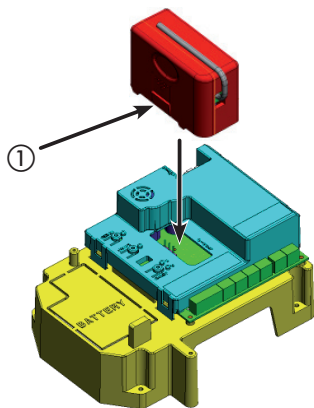

Fig. 10
The control board has an integrated 2-channel decoding system (DS, SLH, LC) named OMNIDEC. This system makes it possible to memory-store both total opening (OPEN A) and partial opening (OPEN B) of the automated system - this is made possible by an additional receiver module (Fig.10 ref. ①) and radio controls on the same frequency.